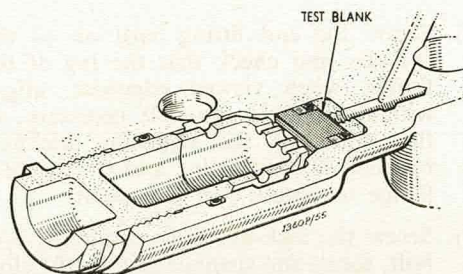

Fig. 4. Assembly of test blank
- (1) Remove the thermal relief valve details, leaving the chamfered washer and sealing ring in situ. Insert the test blank Part No. 4.60001.080 fitted with the existing sealing ring and backing ring, and secure the test blank in the thermal relief valve body with the ball guide and end plug as shown in *fig. 4*.